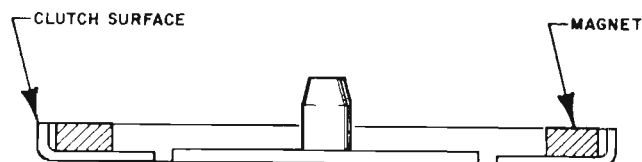

FIGURE 4 CLUTCH SURFACE AND MAGNET
1. Using a very small quantity of metal cleaner (Diablo P/N 70677) on the end of a cotton swab, rub the clutch surface (see Figure 4) until the corrosion is lifted. Exercise care to ensure that fluid does not run between the magnet and the clutch.